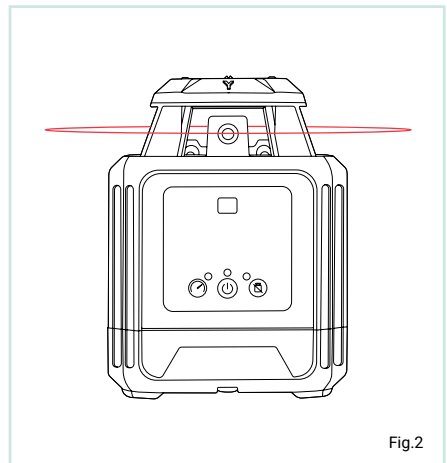

Fig.2
- Press the **power button** and the laser level will power on and begin automatically self-levelling. When this levelling process is complete, the penta prism inside the lighthouse will start rotating (Fig.2).